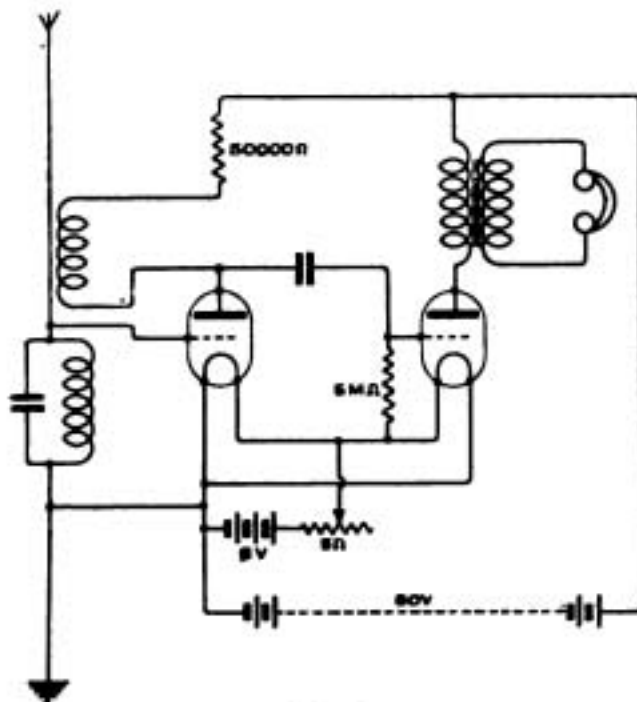

Fig. 3.
E.J.E. (Sanderstead) asks (1) For a diagram of a two-valve receiver, one being a note magnifier, to comply with certain conditions. (2) If he should get New Brunswick, (Glace Bay, etc.
- (1) See diagram, Fig. 3.
- (2) Possible, but somewhat unlikely.